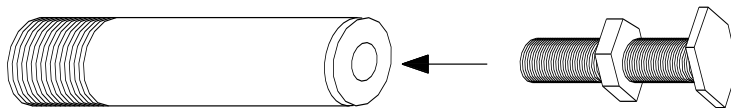

Figure 3.
2. Screw on a 1/2"-13 Nut onto all of the supplied leveling bolts. Insert the leveling bolts into the end of the leveling legs, screwing them in until they are all approx. halfway screwed in. see Figure 3.